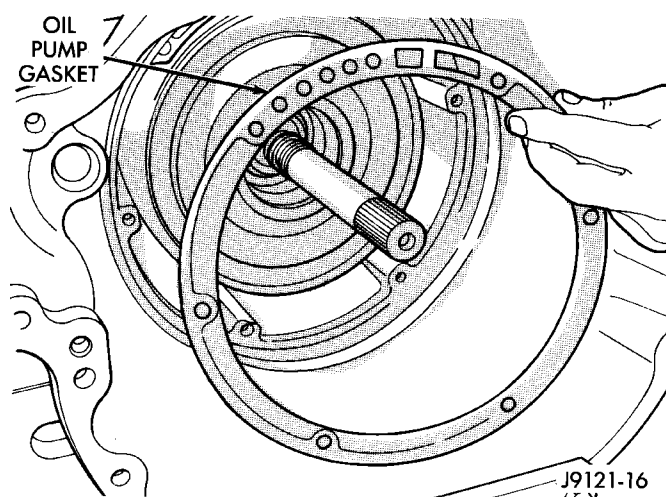

Fig. 107 Oil Pump Gasket
(15) Remove oil pump gasket (Fig. 107). Note gasket position in case for assembly reference.
(16) Loosen front band adjusting screw until band is completely loose.